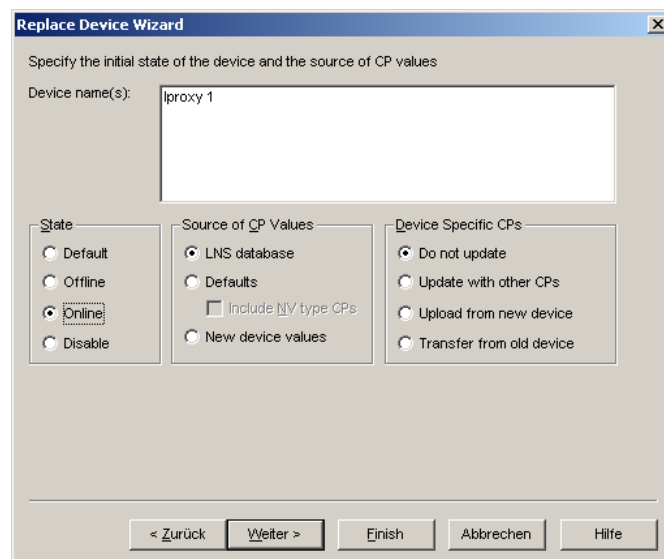

Figure 97: Select online state.
- Then select **Online** as shown in Figure 97 and click **Next**.